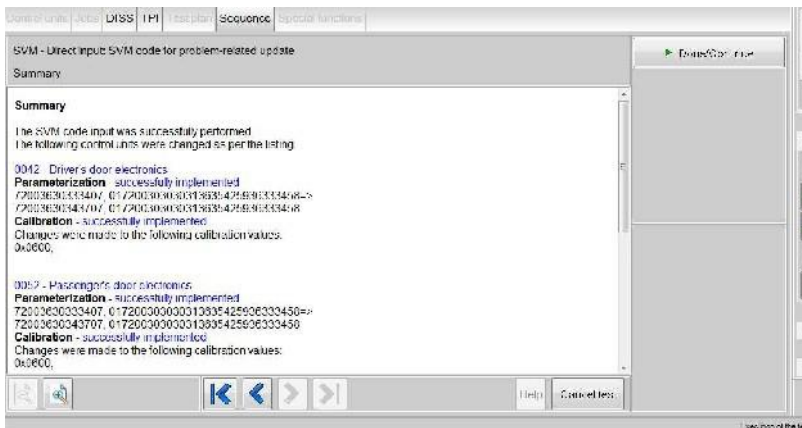

Figure 4
6) Once the update is complete the summary screen will be shown in Figure 4, this confirms completion of the required updates